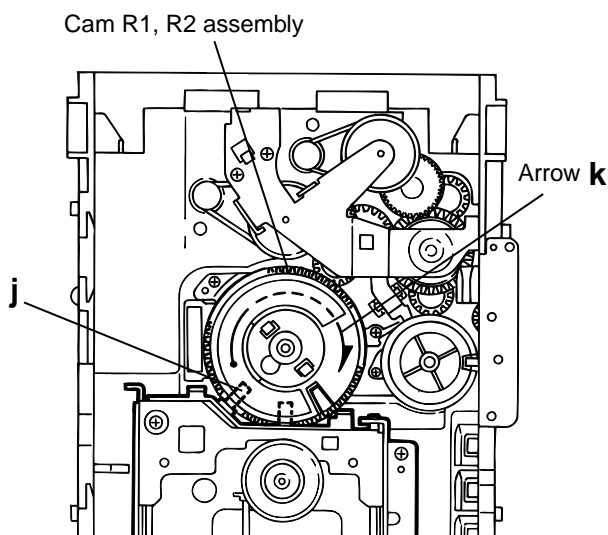

Fig.11
### ■ Removing the CD traverse mechanism (See Fig.11 and 12 )
1. For dismantling only the CD traverse mechanism without removing the CD loading mechanism assembly, align the shaft "j" of the CD loading mechanism assembly to the position shown Fig.11 while turning the cam R1 and R2 assembly in the arrow direction "k".